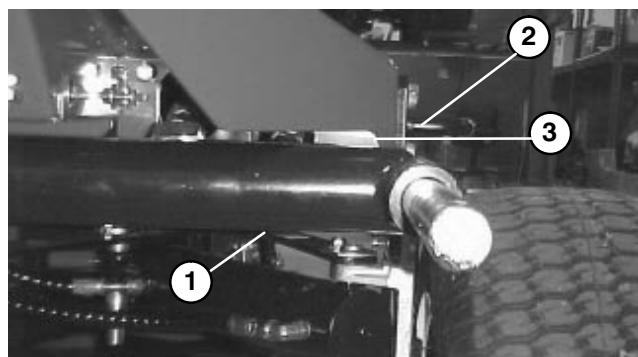
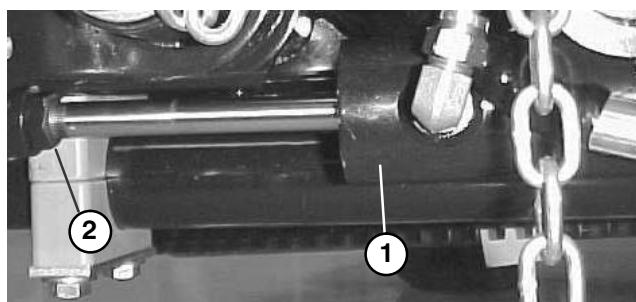
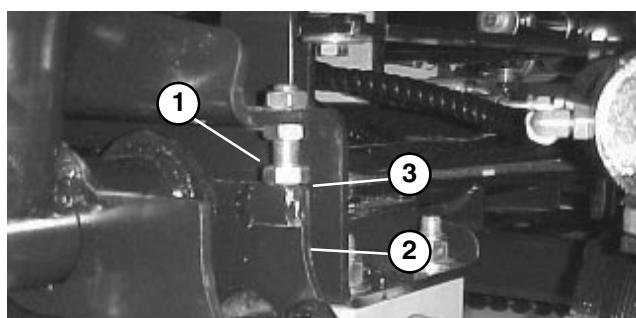

Figure 23
Figure 24
Figure 25
ADJUST LIFT ARMS (Fig. 23 – 27)
1. Start engine, raise lift arms and check to make sure clearance between each lift arm and floor plate bracket is .18" – .32" (Fig. 23). If clearance is not in this range, back off stop bolts (Fig. 25) and adjust cylinder to attain clearance. To adjust cylinder, back off the jam nut on the cylinder (Fig. 24), remove pin from rod end and rotate clevis. Install pin and check clearance. Repeat procedure if required. Tighten clevis jam nut.
2. Check to make sure clearance between each lift arm and stop bolt is .005" – .040" (Fig. 25). If clearance is not in this range, adjust stop bolts to attain clearance.